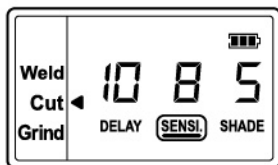

fig.16a
**Cutting Mode** (Shade 5 ~ 8) / **Weld Mode** (Shade 9 ~ 13) – Sensitivity 0 ~ 10 (See fig.16a / 16b)